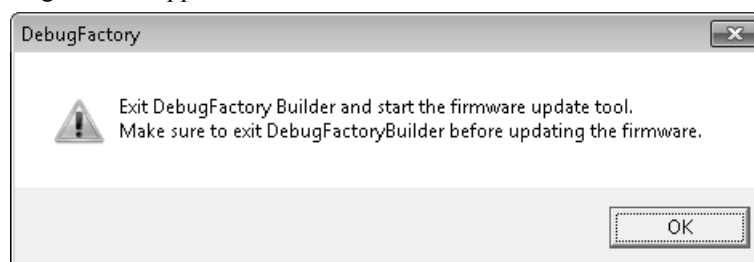

Figure 2.4.3 Firmware Update Tool Start Check
2. The dialog shown in Figure 2.4.3 appears. Click <OK>.